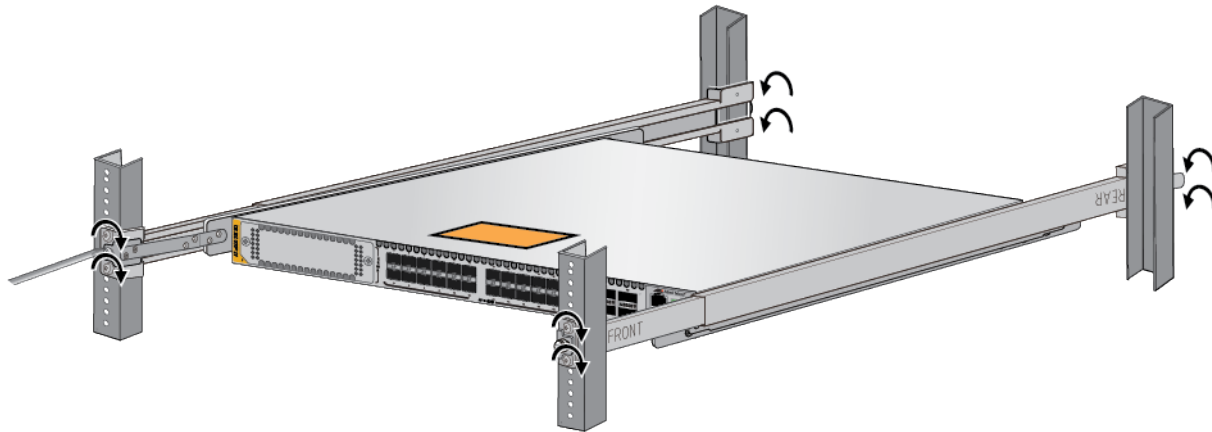

Figure 119. Tightening the Screws on the Outer Rails
5. Finish tightening the eight screws on the outer rails to secure the rails to the equipment rack. See Figure 119.